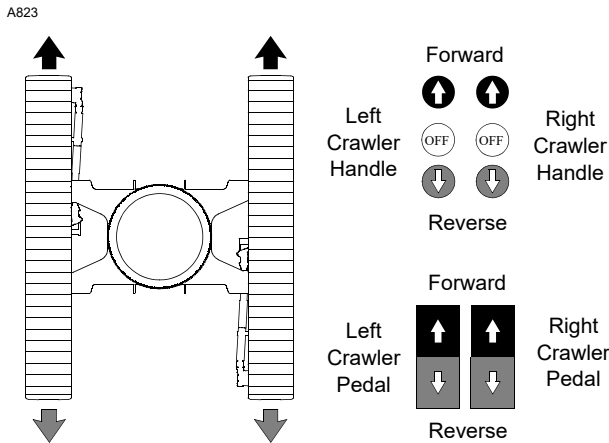

FIGURE 3-21
7. To TRAVEL STRAIGHT (Figure 3-21), move both crawler handles/pedals same amount in desired direction from off.